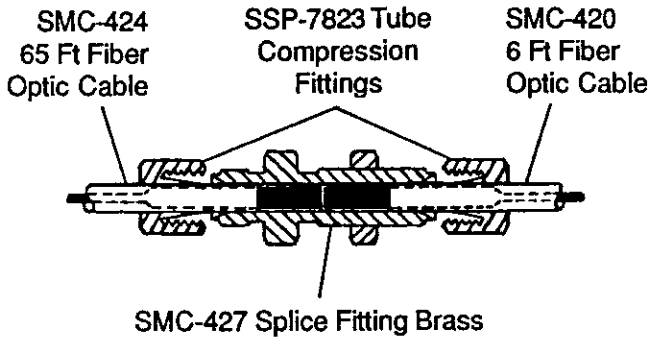

Figure 14. Splice Fitting Connection
2. Slide the SSP-7823 compression fitting over the free end of the 6 foot fiber optic cable. Insert the fiber optic cable into the brass SMC-427 fiber optic splice fitting until it bottoms out. Tighten the compression fitting; refer to Figure 14.
5. Slide the SSP-7823 compression fitting over the cable end; then insert the cable into the brass SMC-427 fiber optic splice fitting until it bottoms out. Tighten the compression fitting; see Figure 14.
To ensure proper signal transmission between the 6 foot and 65 foot fiber optic cables, the cable ends must be clean, smooth, and make full contact within the splice. The tube compression fittings must be tightened securely to ensure that the cables will not move apart during use of the RMA Aerobell Atomizer. See Figure 14.